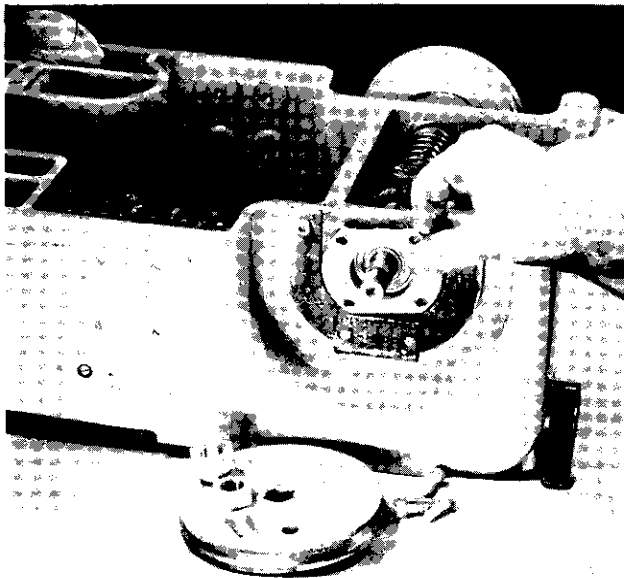

FIG. 16 – Removal of Wheel and Bearing Retaining Plate
4. Remove the wheel by unscrewing the acorn nut and locknut which secure it, then pulling the wheel off the shaft. Refer to Figure 16.
6. Remove the bearing retaining plate (see Figure 16) by withdrawing the four cap screws which hold it to the frame.